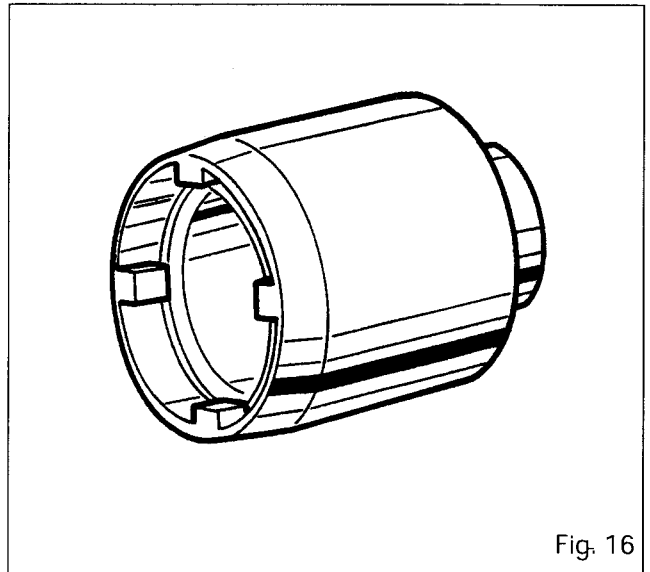

Fig. 16
**3376880M1 - Socket for ring gear carrier nuts (axles AG 85 and AG 105) (Fig. 16)**